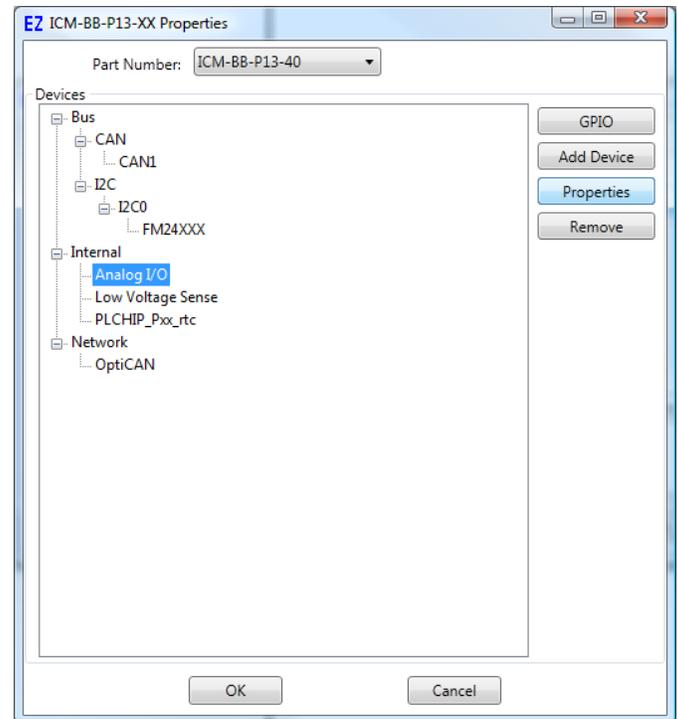
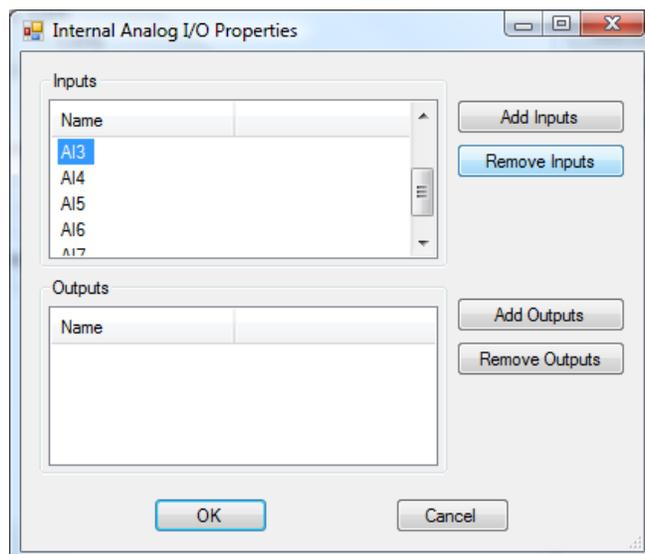

Figure 2-6 - Select Analog I/O
Figure 2-7 - Remove AI3 Analog Input
- Click on (highlight) the Analog I/O under the Internal heading. Click the **PROPERTIES** button. Refer to Figure 2-6. The *Internal Analog I/O Properties* dialog window will open. The inputs pane shows the analog inputs listed AI0 through AI7. Select (highlight) the AI3 item shown in the Inputs pane and click the **REMOVE INPUTS** button. Refer to Figure 2-7. The analog input AI3 is now removed.